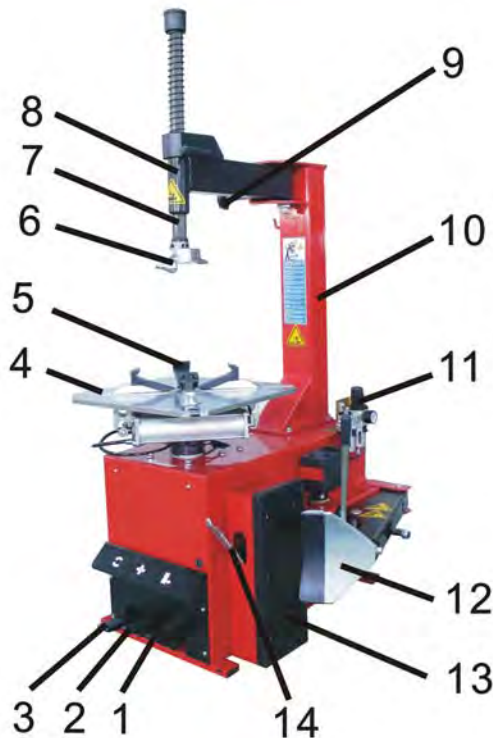

Fig.2
- 2) Depress the Reverse Pedal (3, Fig 2) down, the turntable should turn in a clockwise direction. Pull the pedal up and the turntable should turn anticlockwise.
- 3) Press the bead breaker pedal (1, Fig 2) to activate the paddle. When the pedal is released. The pedal should return to its original position.
- 4) Press the jaw clamp pedal (2, Fig. 2) once to open the four jaws. Press the pedal again to close the jaws.
- 3) Place the wheel / tire evenly on the turntable. (4, Fig. 2)
Position the four jaws (5, Fig. 2) according to the reference mark located on the turntable by depressing the jaw clamp pedal (2, Fig. 2) halfway down.
- 5) Lower the tools shaft (7, Fig.2) until the mounting head (6, Fig.2) rests next to the wheel rim and on top of the tire. Then, lock the tools shaft in position, using the block support.
- 7) Move the tire bead over the mounting head by pulling upward on the reverse pedal.(3, Fig.2)
- 9) With the lever (14, Fig.2) held in position, rotate the turntable in a clockwise direction by fully depressing the reverse pedal. Continue until the tire is completely separated from the wheel rim.
- 3) Lock the wheel rim, using the inner part of the jaws.(5, Fig.2)
- 4) NOTE: When you are working with wheel rims of the same size, it is not always necessary to lock and unlock the tools shaft. Instead, move the swinging arm (8, Fig.2) sideways with the tools shaft locked.(7, Fig.2)